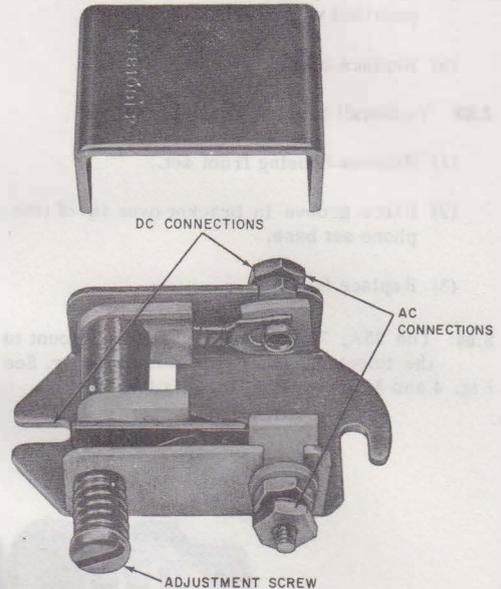

Fig. 2—KS-8109L2 Buzzer
- Add new KS-8109L2 buzzer, Fig. 2
2.15 The volume on KS-8108, 9, and 10 type buzzers can be set with the adjusting screw (Fig. 2)
- 2.22** When using KS-8108, 9, and 10 type buzzer for dc operation the case becomes part of the circuit and should be insulated from any metal mounting surfaces (Fig. 2).